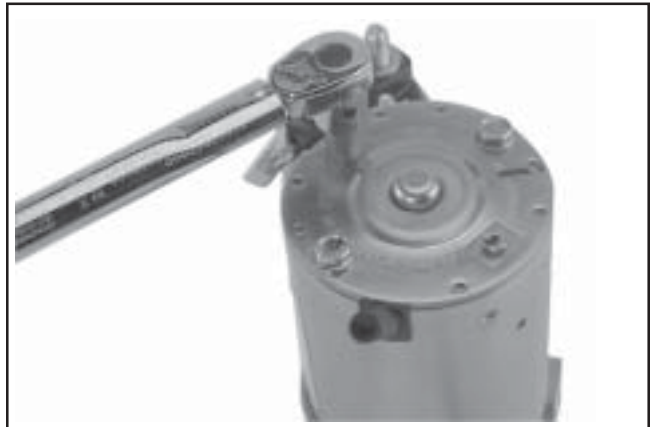

**Figure 8-70. Installing Brush Holder Assembly using Tool with Extension.**
- d. Hold the starter assembly vertically on the end housing, and carefully place the tool (with extension) and assembled original brush holder assembly onto the end of the armature shaft. Slide the brush holder assembly down into place around the commutator, install the positive (+) brush lead grommet in the cutout of the frame. See Figure 8-70.